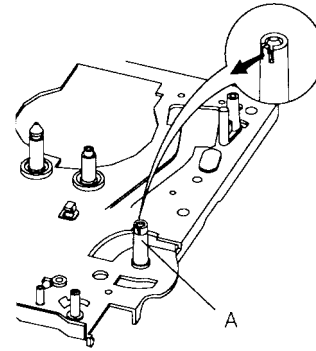

Fig. 25 - Tension Band Assembly Removal
2. Turn the deck mechanism upside down. (Fig. 25)
3. Release the tab of the hook "A" and separate the tension band assembly (3). (Fig. 25)